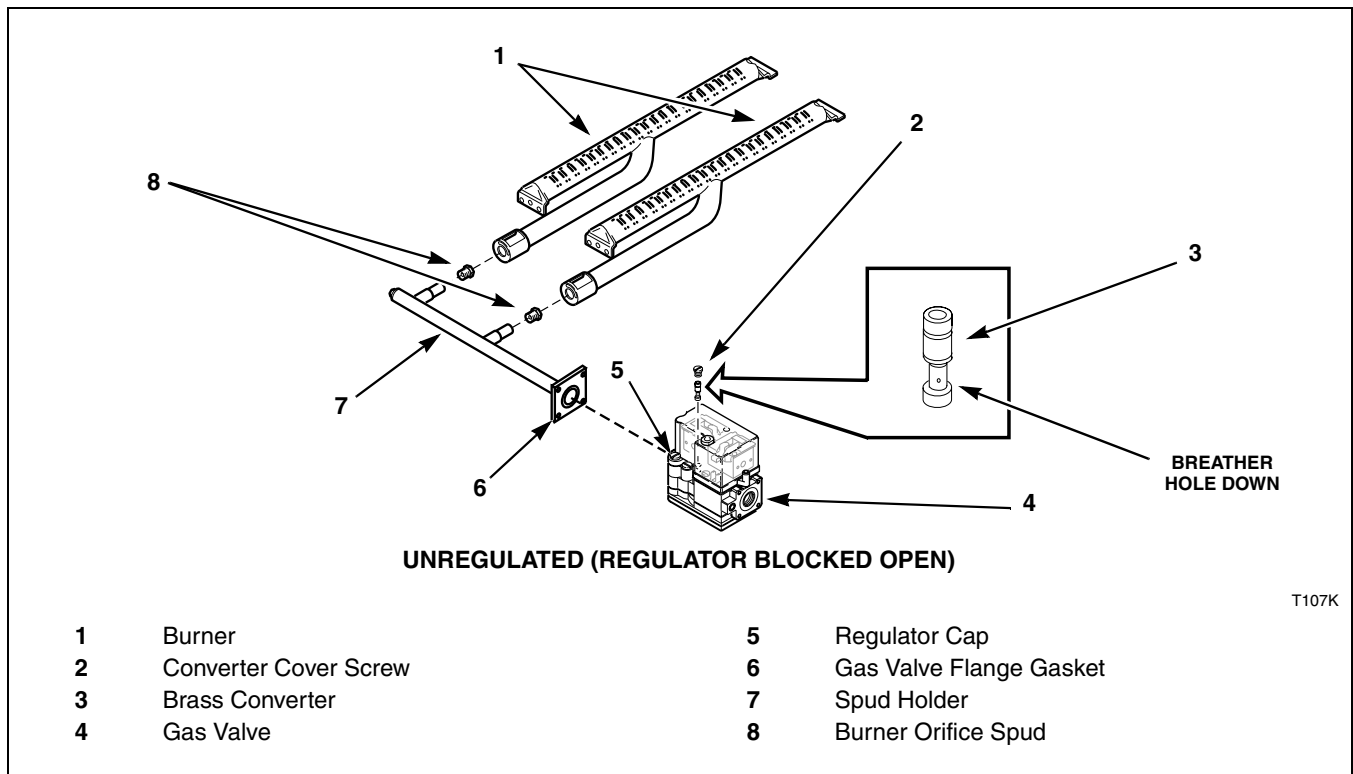
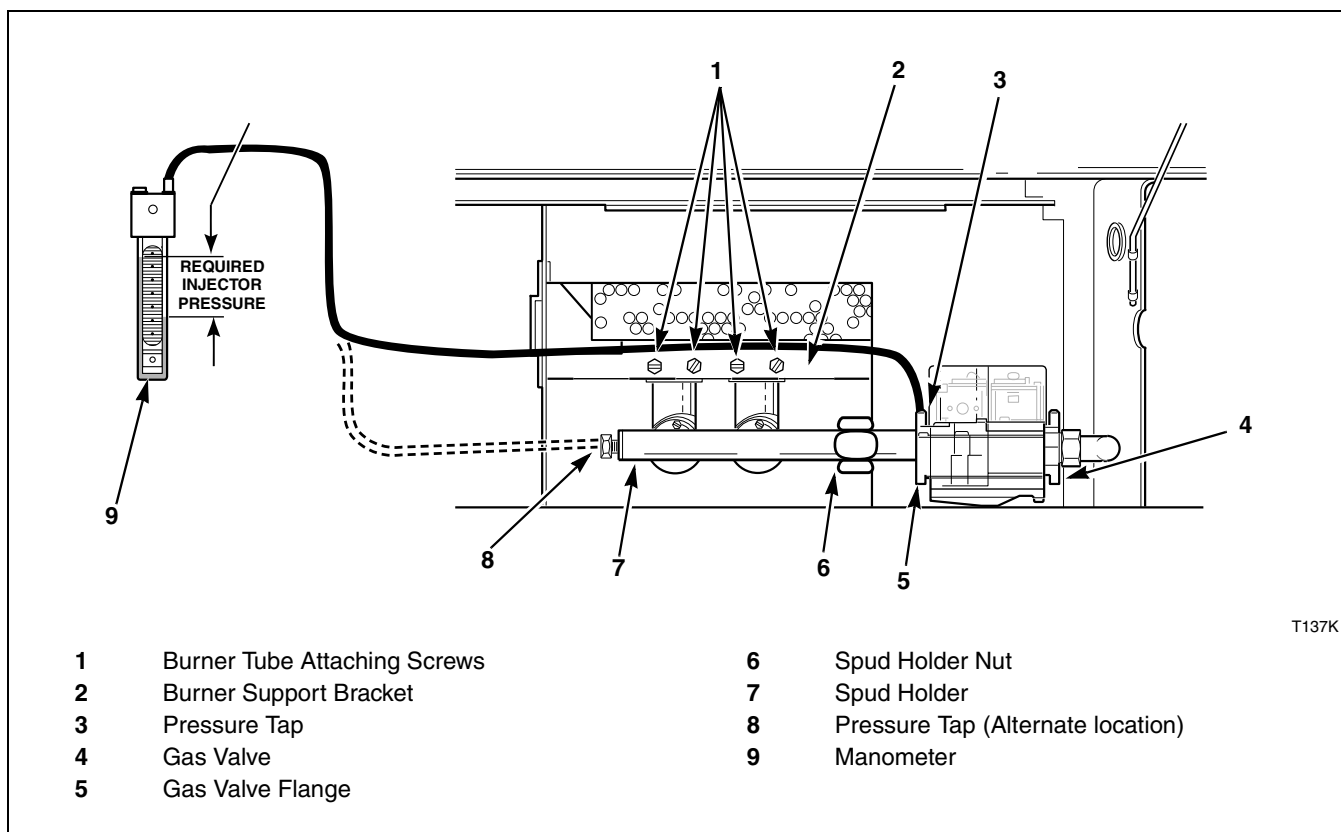

Figure 4
Figure 5
- b. Remove converter cover screw. Invert brass converter and install with breather hole down. Reinstall converter cover screw. Refer to *Figure 4*.
- a. **B-M Gas Valve (120 Pound Models)** – Use a 4 mm Allen wrench to remove the four screws holding the spud holder flange to the gas valve. Remove the burner orifice(s) from the spud holder. Refer to *Figure 4*.
- b. **Johnson GM2000 Gas Valve (170 Pound Models)** – Use a 5 mm Allen wrench to remove the four screws holding the spud holder flange to the gas valve. Remove the burner orifice(s) from the spud holder. Refer to *Figure 4*. When converting from Natural Gas to L.P. Gas, the left-most burner and injector (viewed from front) must be removed. In place of the removed injector, a blank injector (Part No. M400995) and a Burner Opening Cover (Part No. M413099) must be installed.
4. Reinstall spud holder assembly to gas valve, making certain orifice(s) are in line with burner tube opening, and flange gasket is in place in flange groove. Refer to *Figure 4* or *Figure 5*.
1. Check gas injector (manifold) pressure as follows. Refer to *Figure 5*.